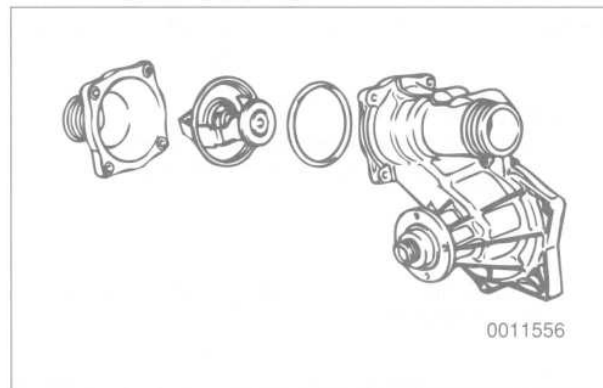

Fig. 17. Thermostat on M60 engine.
- On M60 engines, the thermostat is mounted in the thermostat housing as part of the coolant pump. See Fig. 17.